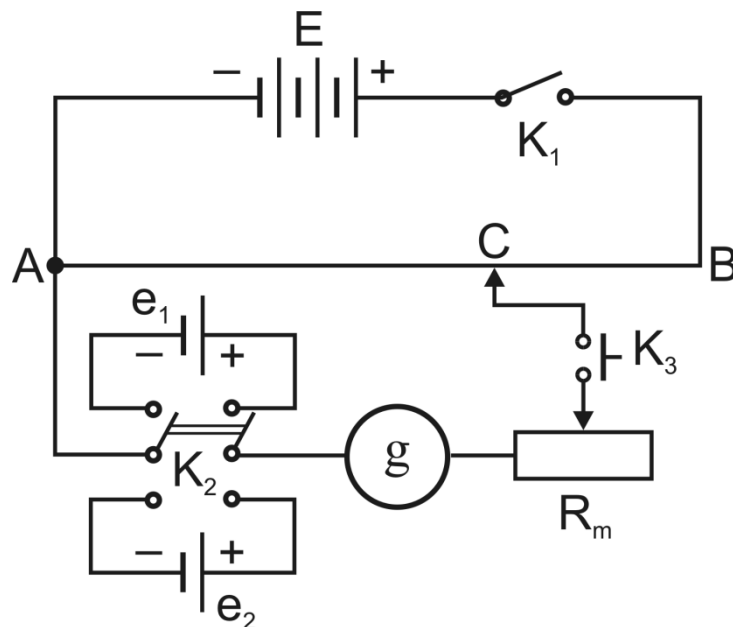

Figure 413.2. Circuit of experimental setup
The circuit for determining the EMF of a cell is shown in Fig. 413.2. E is the auxiliary current source, AB is the rheochord, C is the rheochord slider, e_2 is the standard cell ($e_2 = 1.0183$ V), g is the galvanometer operating as a null-indicator, \mathbf{K}_1 and \mathbf{K}_2 are the single- and double-current keys, \mathbf{K}_3 is the button for short-term activation of the galvanometer. The resistance box R_m is used to prevent the standard cell from delivering unacceptably high power.
1. If necessary, assemble the circuit according to Fig. 413.2. All measurements should be done quickly to obtain accurate results (don't press the button \mathbf{K}_3 for too long). When assembling the circuit, check the polarity of the cells! Choose the maximal resistance R_m in the box. Set the slider C to the middle position of the rheochord and connect the standard cell e_2 with the key \mathbf{K}_2 .